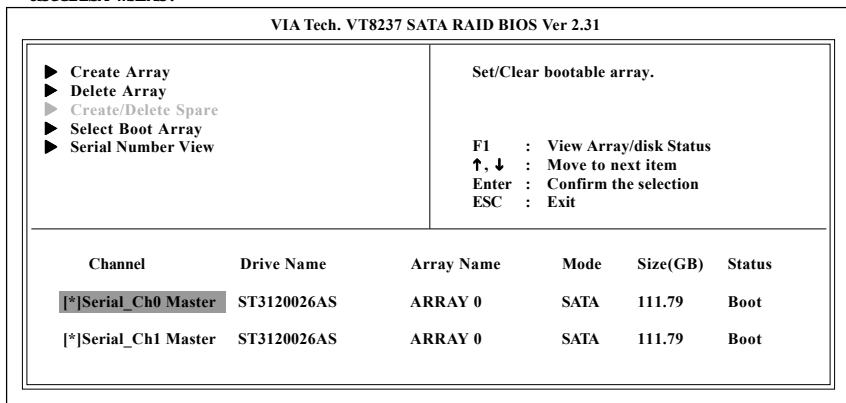

Figure 19
2. The selection bar will move to the **Serial_CH0 Master** option. Press **<Enter>** and you'll see the RAID disks marked with asterisks and the Status area will show "Boot." (Figure 19)